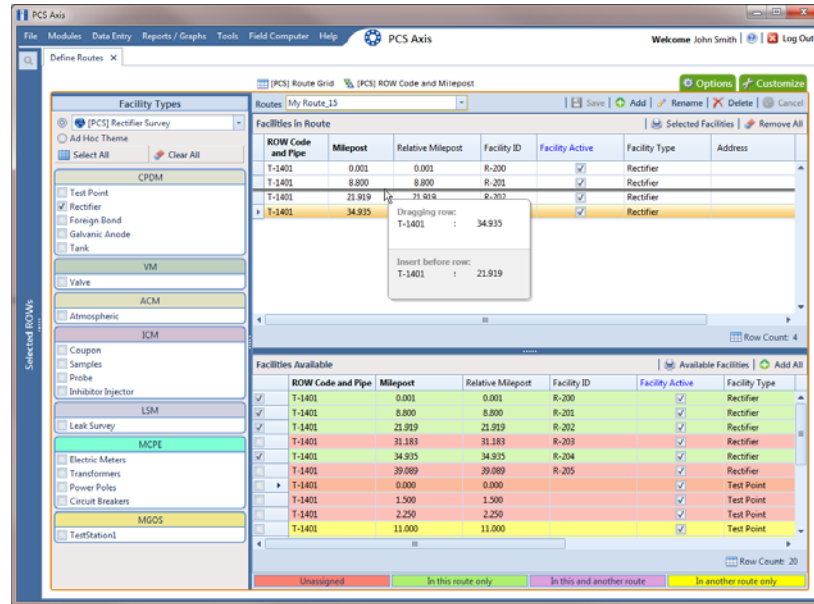

Figure 7-11. Arranging the Order of Facilities
- 2 Arrange the order of facilities listed in the *Facilities in Route* grid as needed using any of the following methods (Figure 7-11):
NOTE: A message displays when moving selected grid rows to confirm the new location in the grid (Figure 7-11, page 293).